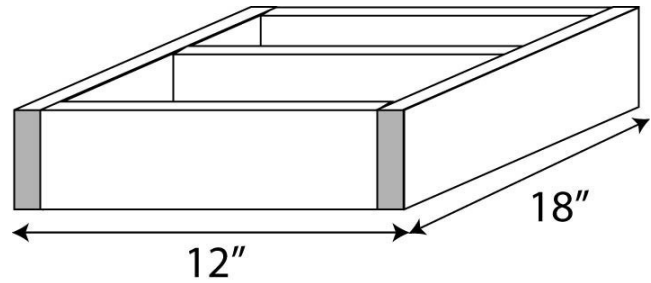

Fig. 12
2. Pin nail the ladder together using the 12" strips as cross bars with the 18" pieces capping the lengths. (See Fig. 12.)